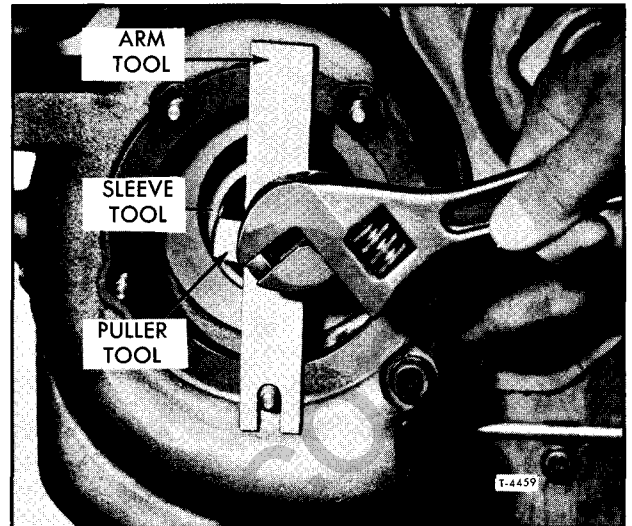

Figure 39—Removing Water Seal from Pump
6. If necessary, remove the pump drive coupling from the shaft with tool (J-1930) as shown in figure 39.
3. Use water pump seal remover set (J-22150) to remove the seal with the pump on or off the engine (fig. 39).
- c. Insert the slotted end of the arm (J-22150-5) through the seal puller and position the cover stud in the slot of the arm as shown in figure 39.